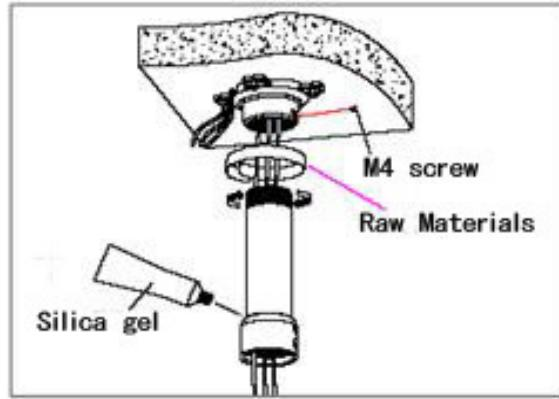

Fig 14
- As shown in the fig 14, tighten the boom with electrical wire and cable through it on the base of ceiling and screw up the M4 screw.